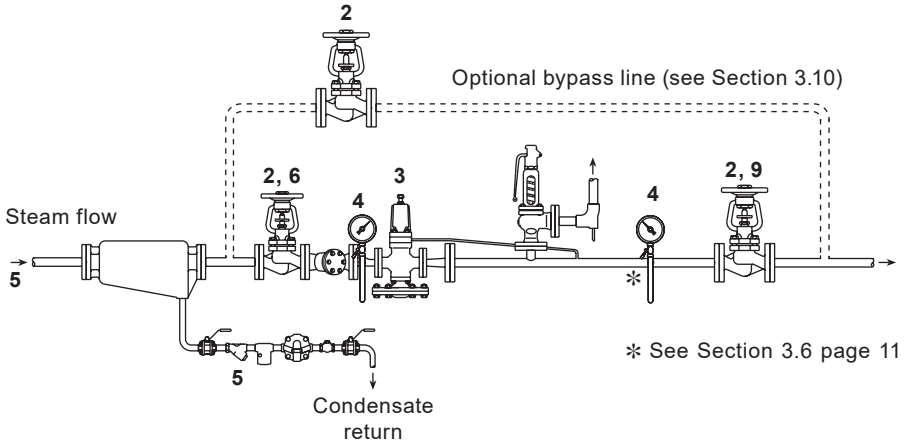
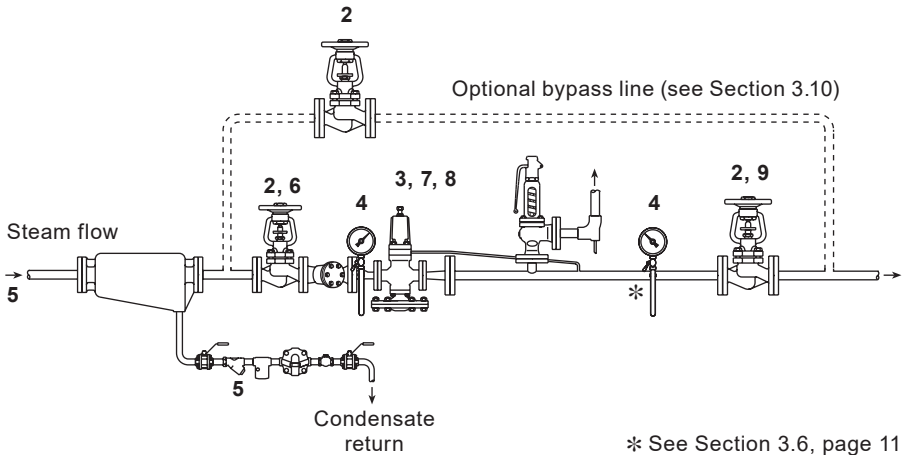

Fig. 8 Setting procedure sequence DP17, DP17E, DP17G, DP17Y and DP27G
Fig. 9 Setting procedure sequence DP17R
The actuating air supply controlled by the regulator should be connected to the union fitting attached to the air control block as in Fig. 4. The air inlet connection is suitable for 6 mm O/D copper tube. The maximum reduced pressure available through the DP17R is 15 bar g (218 psi g). Typical installation is shown in Fig. 9, page 15.
4.1 Setting procedure (Fig. 8 and Fig. 9)
DP17, DP17E, DP17G, DP17Y and DP27G (Fig. 8)
DP17R (Fig. 9)